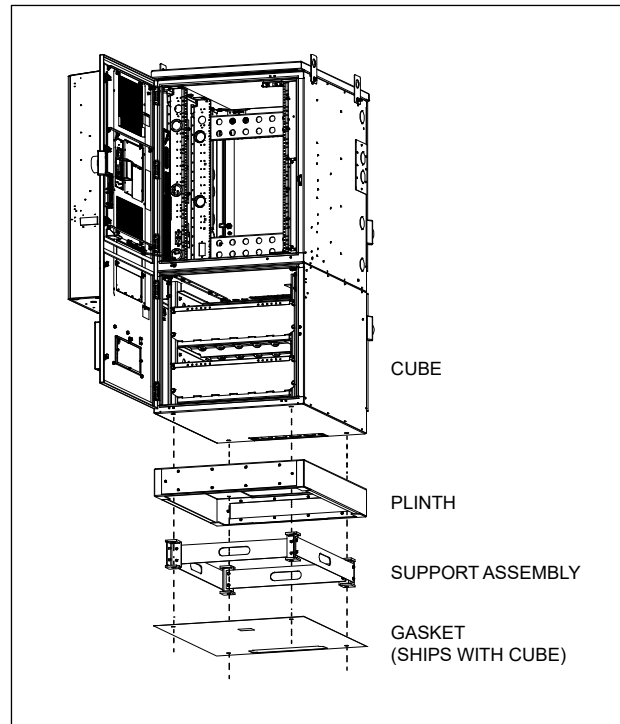

Figure 4
3. Install the gasket by positioning it on the pad with all mounting holes aligned with the holes on the pad as shown in Figure 4.
10. Lower the CUBE onto the plinth, ensuring that the mounting holes on the CUBE remain aligned with the holes on top of the plinth (Figure 4).